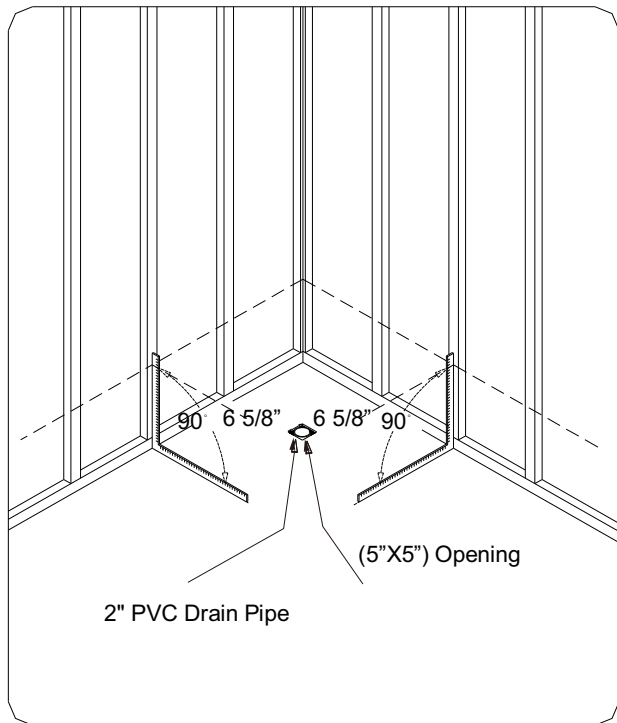

Fig. 3
3. Ensure the floor and stud walls are at the right angle. Provide a 5"x5" opening in the floor for the drain. The waste pipe should extend above the surface of the sub-floor. See fig. 3 and 4 for details.